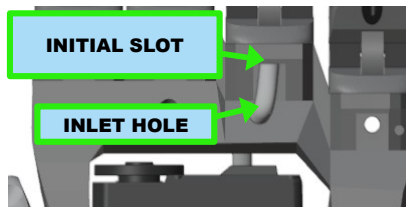

Figure 5.35 : Inserting the tube into the initial slot (front view)
2. Take the remaining part (on the rear of the skeleton) and thread it first through the pass-through tunnel and then into the final slot (figure 5.35).